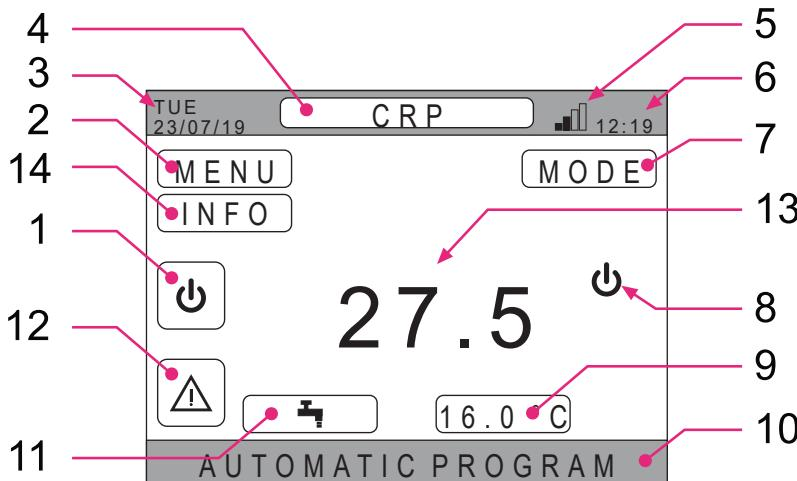

fig. 21 - Main screen
Press the ✓ button in the "System" active area (ref. 1 - fig. 21) to access the menu for changing the system operating mode and activate or deactivate "DHW production" (DHW menu).
Press the ✓ button in the "MENU" active area (ref. 2 - fig. 21) to view some system information and to change some of its settings.
By repeatedly pressing the button ✓ in the active area “Selected zone/Zone change” (ref. 4 - fig. 21) it is possible to go to the zone to monitor or change the settings. The change occurs cyclically in all the configured zones.
Press the ✓ button in the “*Ambient set point*” active area (ref. 9 - fig. 21) to change the ambient set point value for the selected zone.